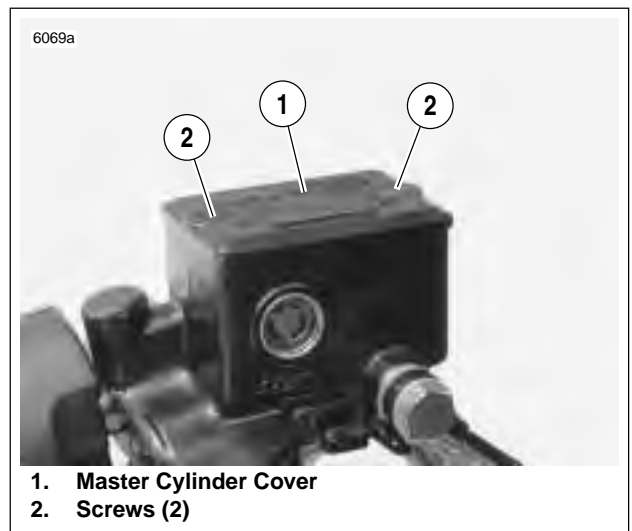

Figure 2-30. Master Cylinder Cover
5. See Figure 2-30. Remove both master cylinder cover screws (2). Remove master cylinder cover (1) and gasket.